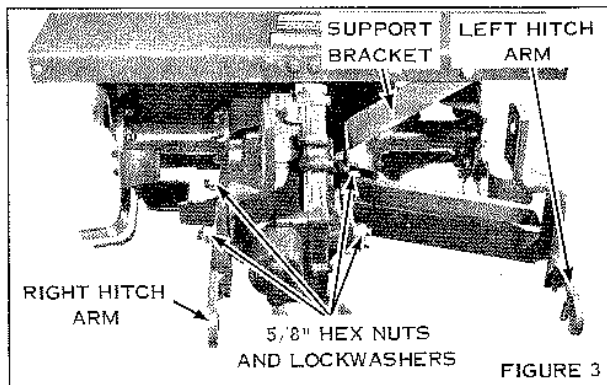

FIGURE 3
1. After removing tiller from the carton, secure left and right-hand hitch arms to sides of tiller gear case using the 5/8" lockwashers and hex nut provided. Hitch arm with double bar off set is attached to the left side, at the same time mount hood support bracket to the rear stud on the left side. See Figure 3.